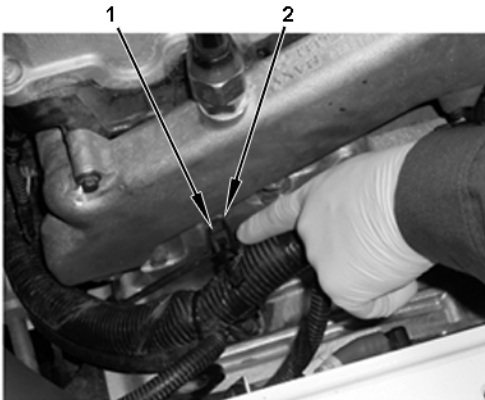

Figure 4 Engine Harness Guide
7. Remove engine harness guide (1) from bolt (2) (Figure 4).